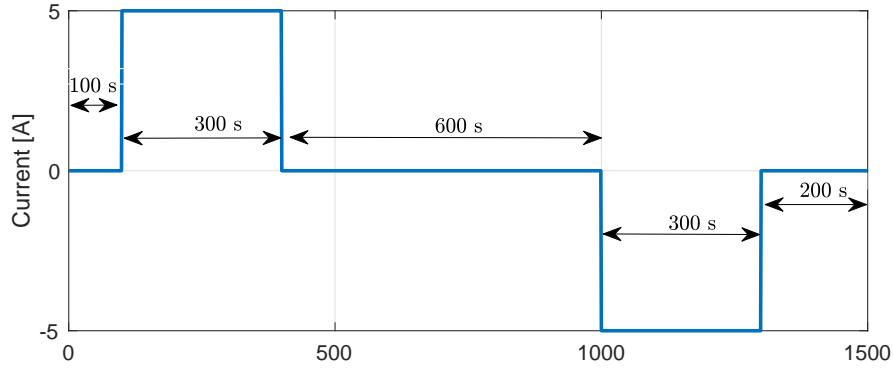

Figure 2: The input current profile.
**Write down expressions for  $a_0, b_1, b_0$  in (8) in terms of the unknown parameters  $R_s, R_1, C_1$ .**
- (c) Recreate the input current profile shown in Fig. 2. This can be done using a series of **Step** blocks in Simulink or a pre-defined, 2-column array of [time, current] in the workspace brought in with the **From workspace** block. Set the initial SOC or  $z(0)$  to 0.5 and start the simulation. Furthermore, use the variables **Delta\_t** and **Tspan** to set the data acquisition rate to 1 s and the total simulation time to 1500 s. Use the given polynomial fit of the battery OCV function (with coefficients from **polynomial.mat**) and state-of-charge  $z(k)$  to calculate the output signal  $y(k)$ . **Submit one figure with four subplots showing: input current, terminal voltage, calculated SOC, and calculated  $y$  versus time.** (Hint, Review the matlab documentation of the *polyval* function with regard to the order of the coefficients.)
Use the input profile in Fig. 2 to generate data at 0.25, 0.5, and 0.75 SOC. Use Matlab to compute the least squares estimate  $\hat{\theta}$  for each SOC separately and provide the  $a_0, b_0, b_1$  results for each SOC in your homework solution. The initial SOC of the battery plant model can be set using the variable  $\text{SOC}_0$ .